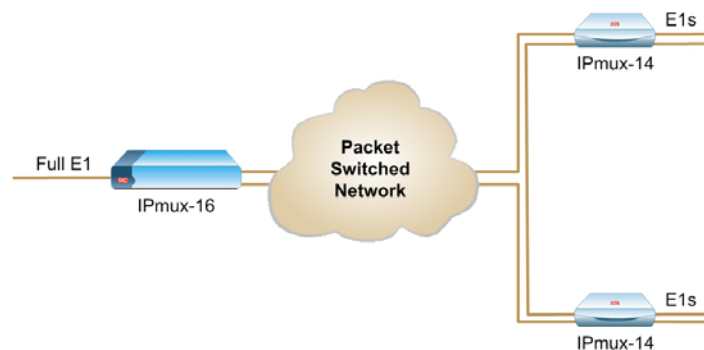

Figure 1-8. Grooming of Timeslots from Remote Sites into a Single E1/T1 Port at Central Site
- **Mesh:** Any-to-any connectivity is supported at the bundle (DS0) level (see Figure 1-8).
Up to 85 sub-E1 or 85 sub-T1 remote bundles can be attached to one central IPmux-8/16. Multibundling enables concentrating many remote sites with few timeslots to the same TDM channel at the central site. A mesh topology application, in which the bundles at each site are defined to connect to several sites, is also supported (see Figure 1-8).